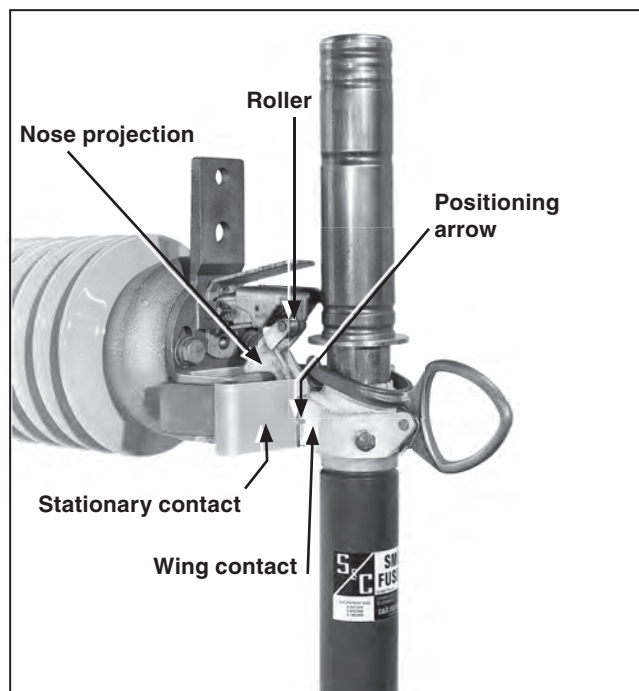

Figure 5. Adjustment of latch-and-upper-contact assembly.
STEP 5. A coating of NO-OX-ID® “A” Contact Lubricant (available from Sanchem, Inc.), was applied to the contact-finger surfaces of the latch-and-upper-contact assembly and hinge-and-lower-contact assembly at the factory. See Figure 5 on page 13 for the relative location of these surfaces on the latch-and-upper-contact assembly. Verify the presence of this oxidation-
STEP 2. *Vertical and Inverted Styles:* Loosen the bolts that secure the hinge-and-lower-contact assembly to its insulator. Bring the fuse-unit assembly toward the **Closed** position, but do not engage the latch. The nose projection on the upper end fitting should make contact with the roller in the latch-and-upper-contact assembly approximately on center. See Figure 5. Make any necessary adjustments by rotating the hinge-and-lower-contact assembly on its axis using the fuse-unit assembly as a lever. Then, tighten the hinge-and-lower-contact assembly mounting bolts securely.
Vertical-Offset, Upright, and Right-Angle Styles: Loosen the bolts that secure the hinge casting to its bracket weldment. Bring the fuse-unit assembly toward the **Closed** position, but do not engage the latch. The nose projection on the upper end fitting should make contact with the roller in the latch casting approximately on center. See Figure 5. Make any necessary adjustments by rotating the hinge casting on its axis using the fuse-unit assembly as a lever. Then, tighten the hinge casting mounting bolts securely.
STEP 3. *Vertical and Inverted Styles:* Again bring the fuse-unit assembly toward the **Closed** position and check that the wing contacts mate squarely with the stationary contacts. See Figure 5. If necessary, loosen the mounting bolts that secure the latch-and-upper-contact assembly to its insulator and rotate the latch-and-upper-contact assembly as required to obtain correct contact engagement. Tighten the mounting bolts just enough to hold the adjustment. When this adjustment is properly made, the wing contacts of the fuse-unit assembly will mate squarely with the surfaces of the stationary contacts as the fuse-unit assembly approaches the **Closed** position.
Vertical-Offset, Upright, and Right-Angle Styles: Again, bring the fuse-unit assembly toward the **Closed** position and check that the wing contacts mate squarely with the stationary contacts. See Figure 5 on page 13. If necessary, loosen the mounting bolts that secure the latch casting to its bracket weldment and rotate the latch casting as required to obtain correct contact engagement. Tighten the mounting bolts just enough to hold the adjustment. When this adjustment is properly made, the wing contacts of the fuse-unit assembly will mate squarely with the surfaces of the stationary contacts as the fuse-unit assembly approaches the **Closed** position.